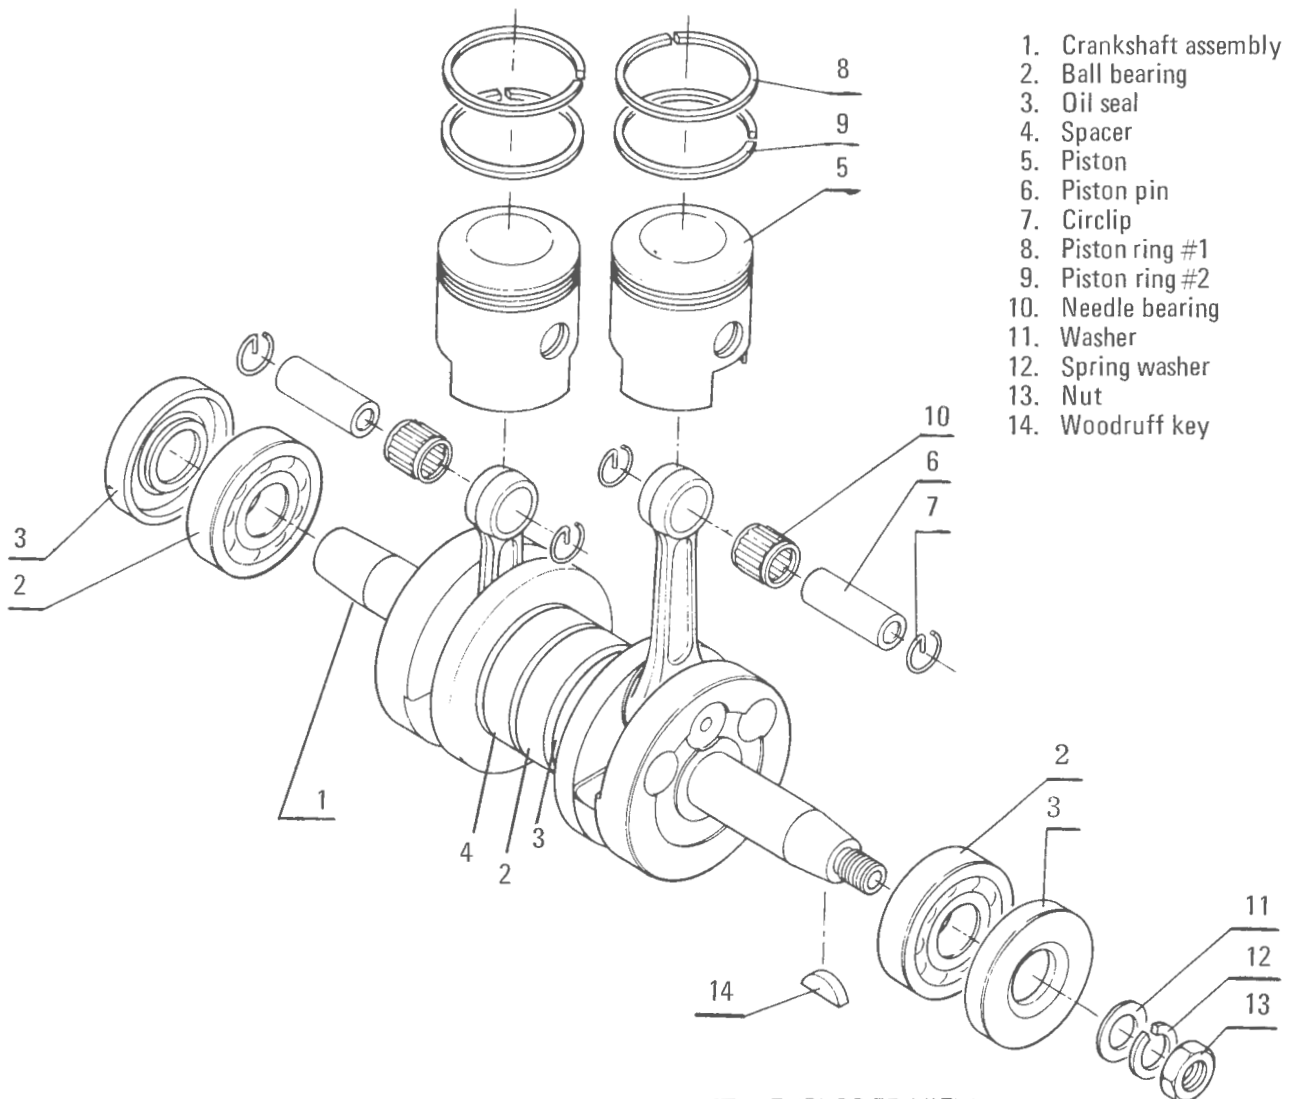

FIGURE 4-5 CRANKSHAFT – EXPLODED VIEW
4.6 CRANKSHAFT (See Figure 4-5)